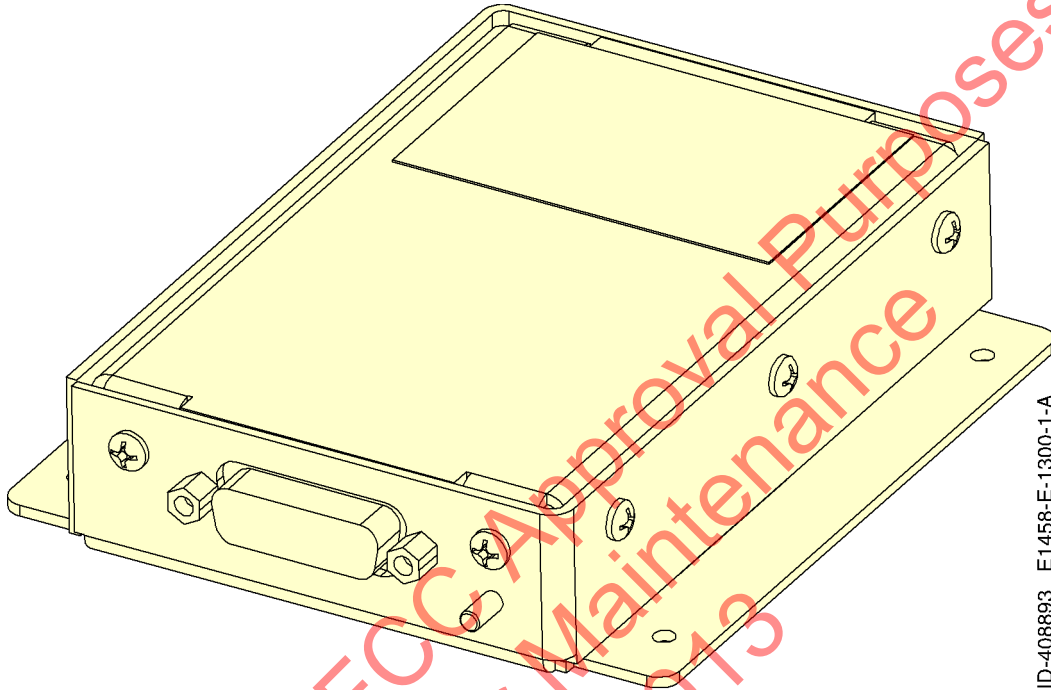

Figure 5. (Sheet 1 of 1) SCM (GRAPHIC 23-15-30-99B-805-A01)
- (7) Refer to Figure 5 (GRAPHIC 23-15-30-99B-805-A01) for the SCM and Figure 6 (GRAPHIC 23-15-30-99B-806-A01) for a detailed information on the physical characteristics of the SCM.